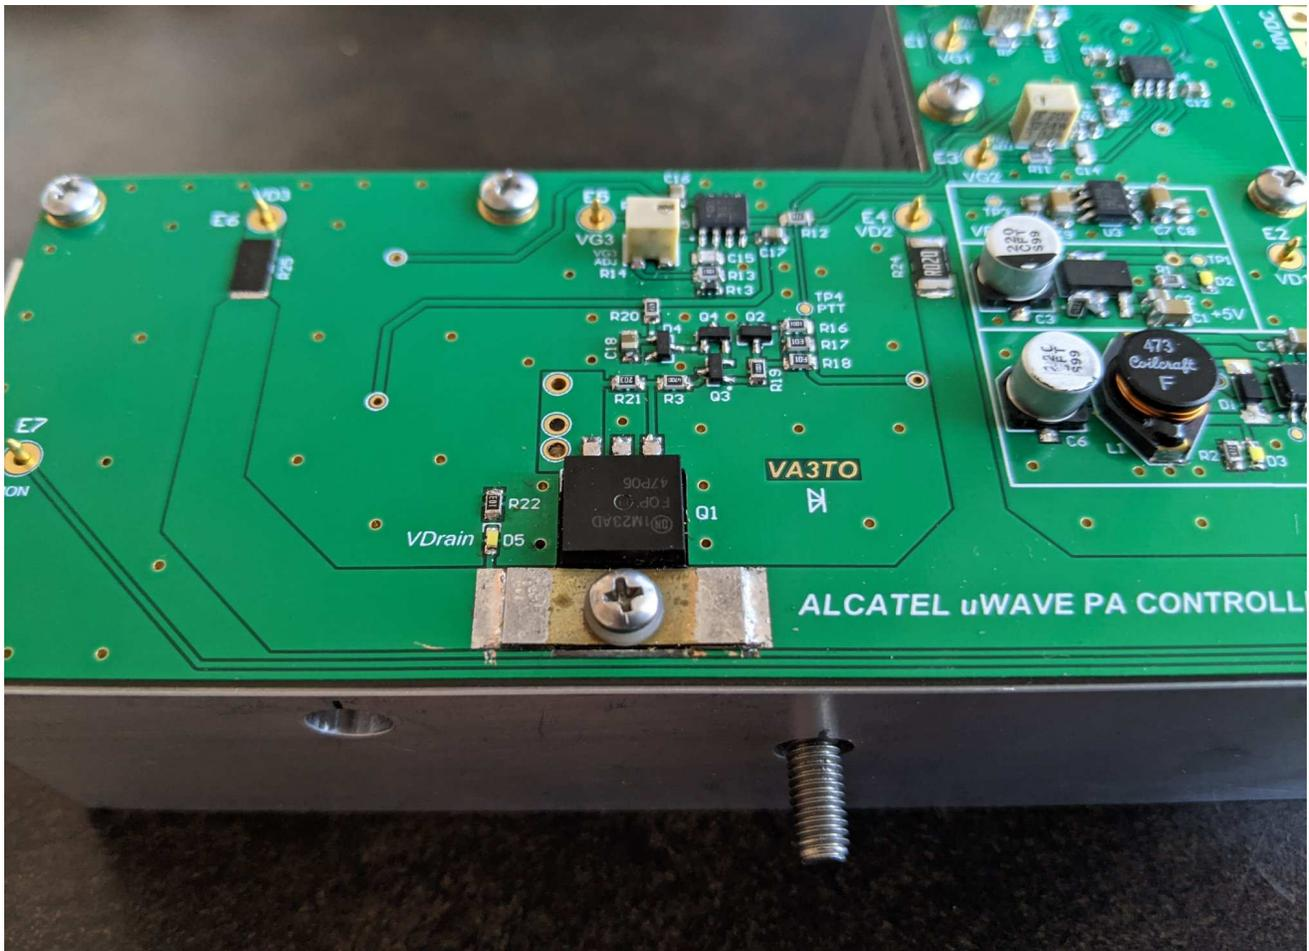

FIGURE 2-1
2. Install the switching FET with the board mounted for proper alignment of the TO-220 heatsink tab. The drain tab of the FET is hot (not ground) so it needs to be insulated from the heatsink block. Place an insulator pad on the PA block where the switching FET will be installed. Trim off the narrower part of the leads of the FET to the point where they get wider. Fabricate a buss bar out of brass, copper or tin to straddle the tab on the switching FET. Drill a hole in the buss bar just big enough to clear the o.d. of the shoulder insulator as seen in Figure 2-1. This supplies 10V from the switching FET to the 3 amplifier Drains.
Install the FET into the opening on the board with the brass buss bar and shoulder insulator in place as shown in Figure 2-1. Install the screw and tighten. The sides of the brass bar will tend to bend up as the screw is tightened. If you're fussy like me then you can bend the bar on both sides to have a gullwing profile. Solder the leads of the FET to the board. Temporarily remove the shoulder insulator (so it doesn't melt), use a countersunk 4-40 screw through the buss bar and FET tab to centre everything, tighten then solder the brass bar to the pc board on both sides of the tab. Let the buss bar cool down then re-install the shoulder insulator using a pan head screw. Use an ohmmeter to verify that the tab of the FET is not making contact with the PA block (ground).